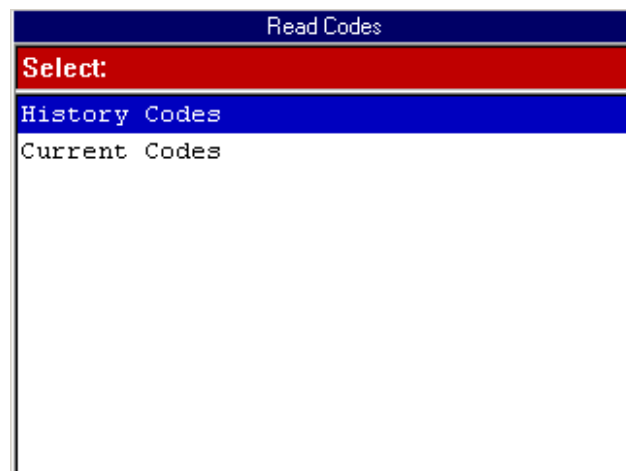

Figure 5.5: Read Codes Menu Screen
- If the vehicle's ECU stores current and history codes, the Read Codes menu screen appears (see figure 5.5). Continue with the next step.